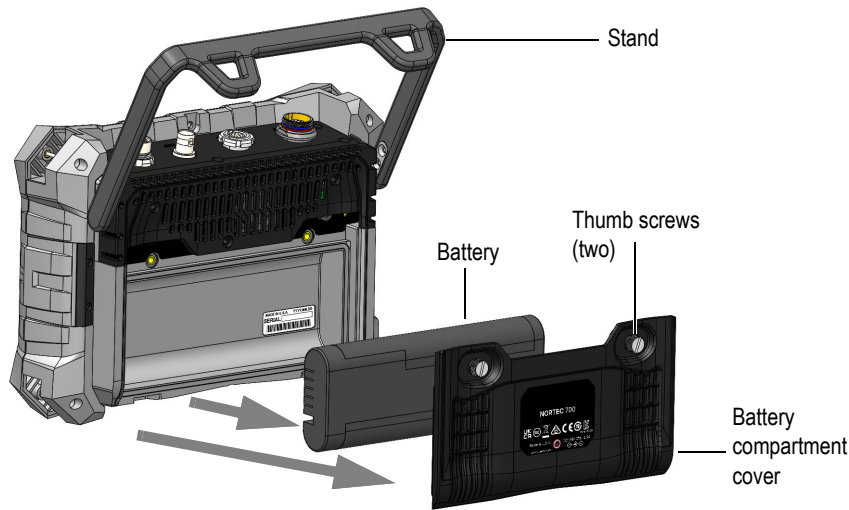

Figure 7-2 Removing the lithium-ion battery
1. Unfold the instrument stand (see Figure 7-2 on page 222).